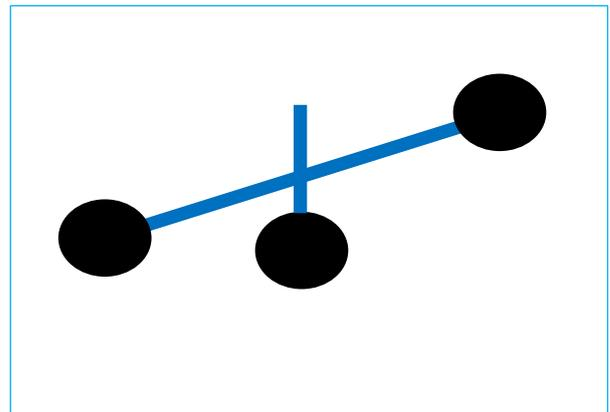

Figure 2 – Pipe Overshoot
- Overshoots: A pipe end extends just past the pipe to which it is to be connected. See Figure 2.